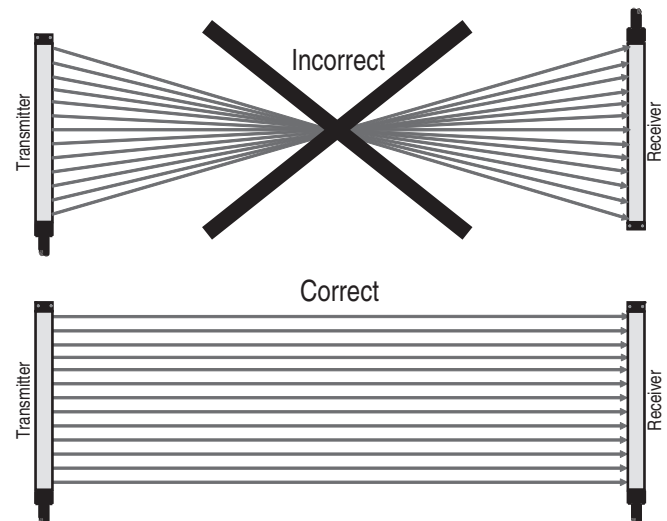

Figure 8: Layout of the transmitter/receiver
2. Take care that the receiver and transmitter are oriented in the same direction. This means, the beginning of the protective field which is found next to the cable which leads to the safety controller, must be located at the same end of the protective field. A reference would be that the indicator LEDs are opposite one another. It is not allowed to mount the GuardShield Micro 400 systems rotated 180° (Figure 8: Layout of the transmitter/receiver).